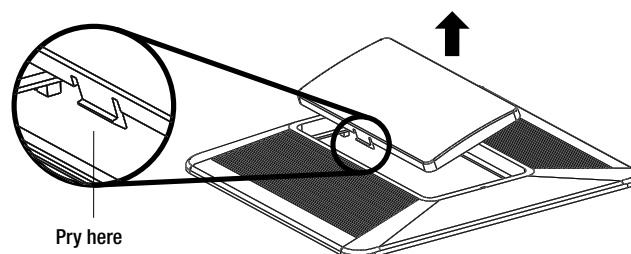

Fig. 20
- With a piece of cloth in between to avoid scratching the cover, use a flathead screwdriver to pry the light cover out of the grille. See figure 20.